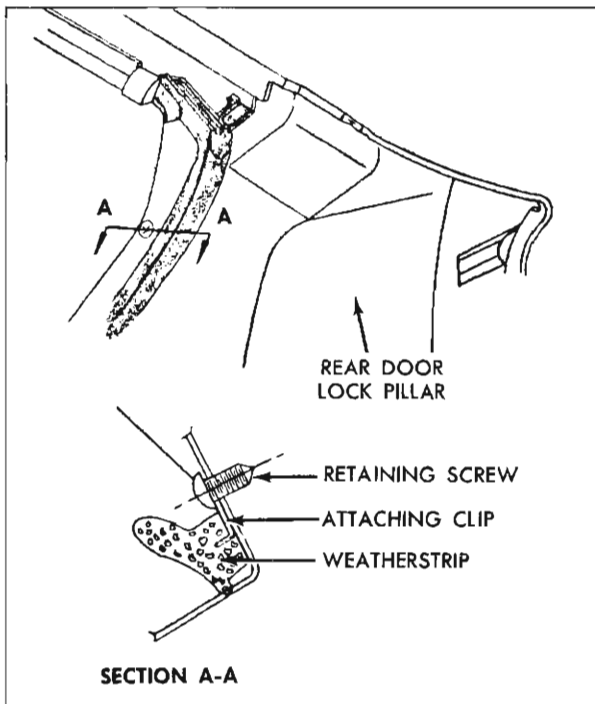

Fig. 3-30 "39" Style Weatherstrip Attaching Clip Screen
2. Remove the single weatherstrip attaching clip screw located at upper radius of lock pillar (see Fig. 3-30).